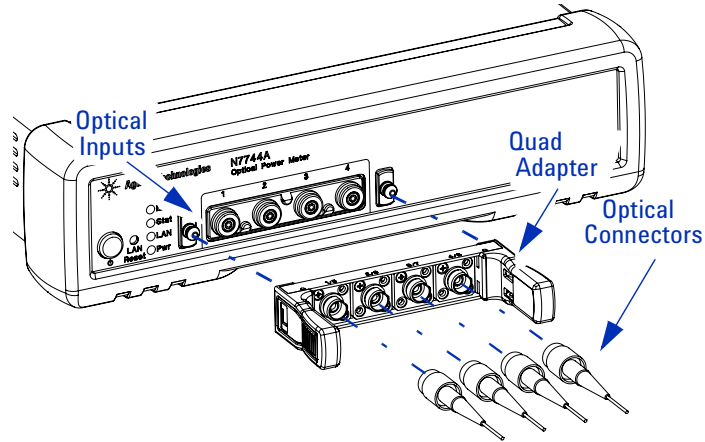

Figure 7 Connecting Optical Fibers
- 4 Connect the quad-adapter to the optical inputs, see Figure 7, by pressing it on until it clicks securely into place.